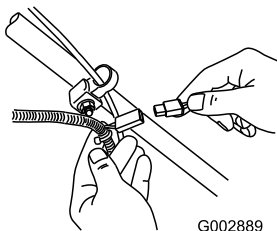

Figure 40
1. Connect the charger to the mower wire harness located below the ignition key (Figure 40).